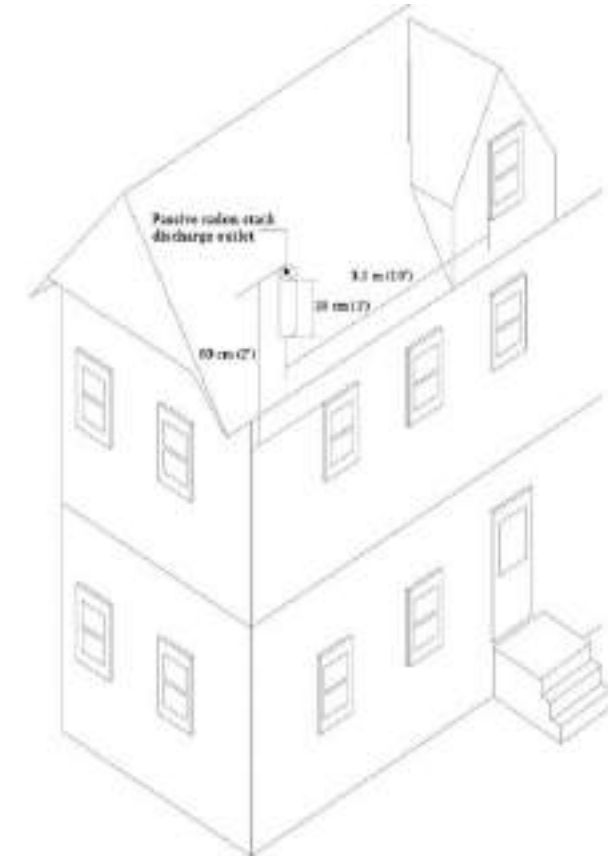

Figure 7.2.4.6 — Conceptual illustration of rooftop passive stack discharge geometry showing proximity to windows and height above roof
7.2.4.6. The exterior pipe termination of the passive stack terminated above the roof top shall be directed vertically conforming to Table 7.2.4.6 and Figure 7.2.4.6